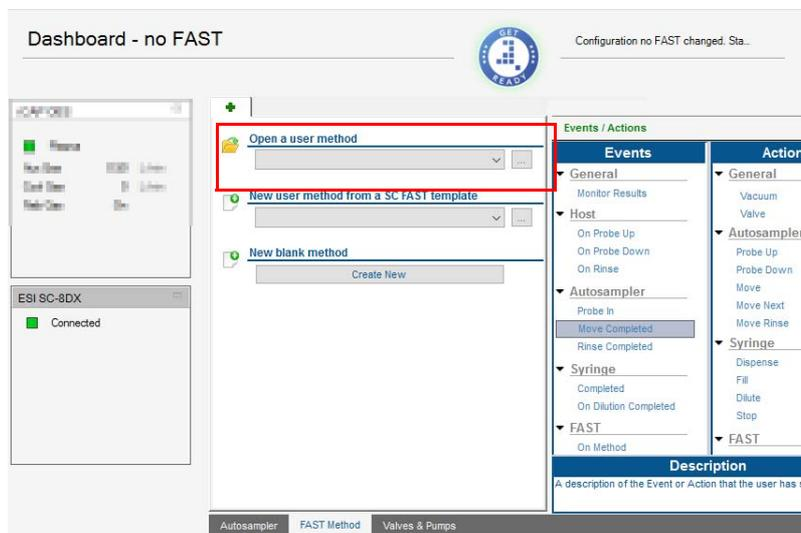

Figure 14-17. FAST Method tab of ESI autosampler on Dashboard
4. Select the FAST Method tab, see Figure 14-17.